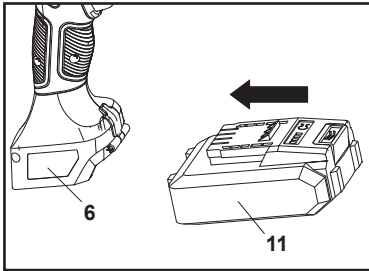

Fig. 4
1. Align the battery pack (11) with the sliding slots of the battery docking port (6) and slide the battery pack (11) in to attach it. Ensure it clicks in place (Fig. 4).